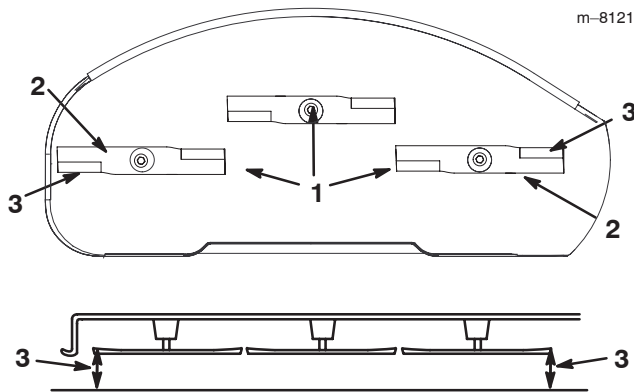

Figure 37
6. Carefully rotate the blade(s) from side to side (Fig. 37). Measure between the outside cutting edges and the flat surface (Fig. 37). If both measurements are not within 3/16 inch (4.75 mm), an adjustment is required; refer to steps 7 and 8.